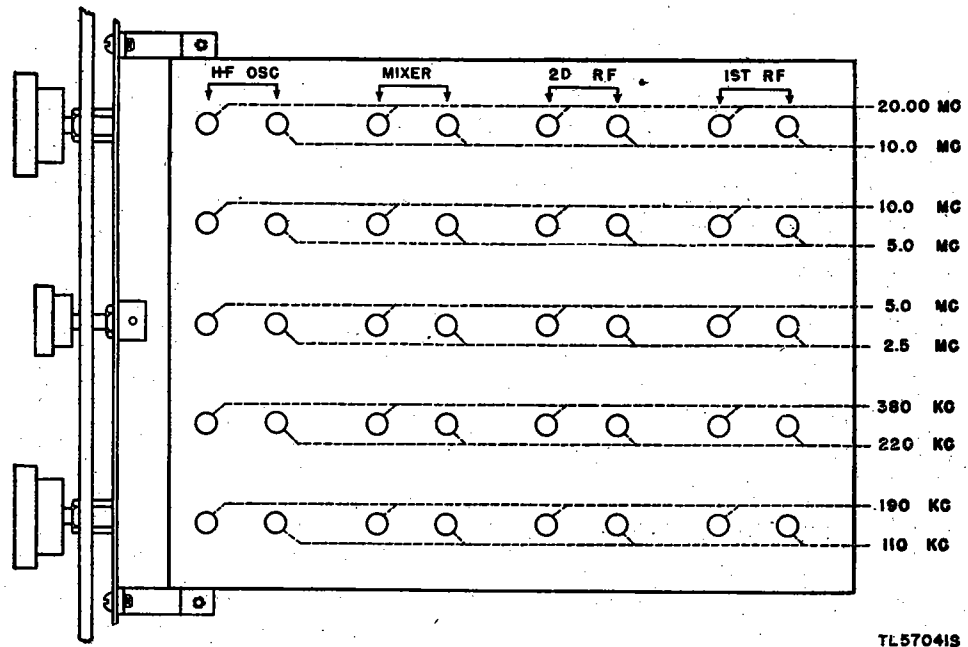

Figure 46. Radio Receiver BC-779-(*), alignment chart.
shown in figures 46, 47, 48, and 49, respectively. If necessary, the second harmonic can generally be used when the fundamental frequency is not available. For example, a signal generator covering all frequencies from 100 kc to 20 mc, in addition to being ideal for checking Radio Receiver BC-779-(*), could be used to check Radio Receiver BC-794-(*), by using the second harmonic of 20 mc instead of the 40 mc called for in figure 47. The signal generator should have an output of about 100 microvolts and an output impedance of approximately 100 ohms for best results when alining the r-f and h-f oscillator circuits. For i-f alinement these values are not critical. The frequency calibration of the signal generator is extremely important in order that the receiver dial calibration be correct.
b. To correct dial calibration, refer to an alinement chart, figure 46, 47, 48, or 49 for the location of the h-f oscillator adjustments as well as the signal frequencies at which the settings should be made. If the 2.5- to 5.0-mc band is to be corrected, the signal generator may be *accurately* set to 2.5 mc and its second harmonic (if strong enough) used for the 5.0-mc end of the band. In either case, whether the 5.0-mc frequency is the fundamental or second harmonic, the 5.0-mc frequency *must* be accurate. This requires that the setting of the signal generator be accurately adjusted by the use of a frequency meter as described in paragraph 94. The output of the signal generator should be unmodulated and the SIGNAL MOD-CW switch on the receiver turned to CW. Set the BEAT OSCILLATOR control at 0, the AUDIO GAIN at 10, and the AVC-MANUAL switch on MANUAL. Disconnect the output meter and use headphones or loudspeaker to make the necessary adjustments by the zero beat method. Connect the signal generator to the antenna terminals for this test.
c. Set the receiver MAIN TUNING dial to the 5.0-mc end and then tune it to zero beat with the 5.0-mc output of the accurately calibrated signal generator. Notice the approximate dial error. Then turn the MAIN TUNING dial slightly toward the 5.0-mc calibration line until the beat note rises to a high pitch. Do not turn the dial far enough to raise the beat note so high that you cannot hear it. With the alinement screw driver adjust the trimmer capacitor marked H-F OSC-5.0 MC (fig. 46, 47,
48, or 49) until the beat note is again zero. Turn the MAIN TUNING dial still farther toward the 5.0-mc line and make a further adjustment of the trimmer capacitor to return to zero beat. Repeat this procedure as many times as necessary to bring the dial to exactly 5.0 mc. (It is evident that the dial could be set at once on exactly 5.0 mc and the trimmer turned enough at one time to produce zero beat, but the step-by-step method is recommended). Accurately set the signal generator to 2.5 mc by calibrating it with the frequency meter. Then tune in the 2.5-mc signal at the l-f end of the MAIN TUNING dial and correct the calibration step-by-step, as before, using the inductance trimming adjustment H-F OSC-2.5 MC (fig. 46, 47, 48, or 49). Accurately set the signal generator for an output of 5 mc again, and tune the receiver to this frequency. It will be found that the adjustment of the inductance at 2.5 mc has changed the correction previously made at 5.0 mc. This is perfectly normal, because an adjustment at one end of the dial also affects the other end of the band. It will therefore be necessary to go back and forth several times from 2.5 to 5.0 mc in order to bring both ends of the dial scale into exact agreement with the signal frequency. Be sure that the signal generator is always accurately set.
c. Starting with the 2.5- to 5.0-mc band, set the MAIN TUNING dial at 5.0 mc (band spread dial at 100) and adjust the frequency of the signal generator for peak deflection of the output meter. Then check and adjust the setting of the trimmer marked MIXER and 5.0 MC in figure 46, 47, 48, or 49 for maximum reading on the output meter. Repeat this procedure on trimmers indicated as 2D RF and 1ST RF in the same row. If readjustments on one of these settings result in a sizable increase in output meter reading, slightly alter the SENSITIVITY control to reduce the reading to half-scale. After each adjustment check the tuning of the receiver to make sure that the test signal is still accurately tuned. The BAND SPREAD control may be used as a vernier for this purpose in those bands in which it operates (par. 15c). *This tuning check is extremely important at the high end of the 10- to 20-mc and 20- to 40-mc bands where there is some slight interaction between the mixer and h-f oscillator circuit.* After checking the three trimmers at the high end of this band, turn the MAIN TUNING dial to 2.5 mc and retune the signal generator to suit. Then check the three inductance adjuster settings marked 2.5 mc in the same row. Since adjustments at one end of a band also affect the other end of that band, it will be necessary to repeat the above procedure until no further improvement can be secured. The number of repetitions necessary will depend on how much mistuning existed to start with. Check the rest of the bands in the same manner.